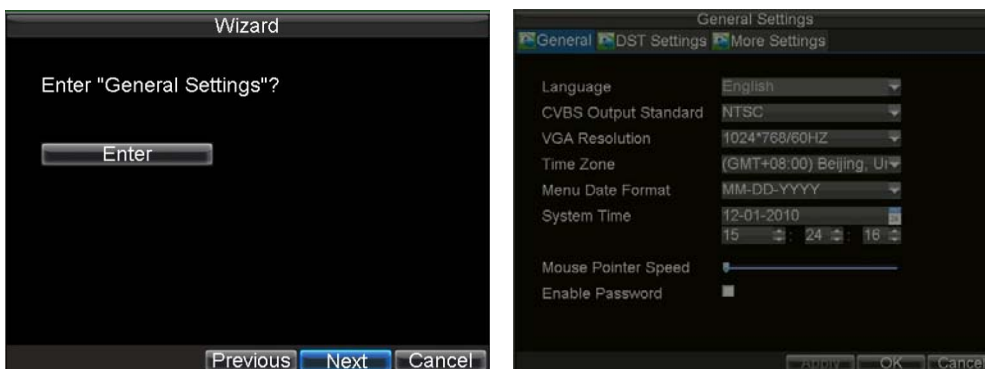

Figure4. General Settings
5. Click the Next button. This will take you to the **General Settings** dialog box, shown in Figure 4.